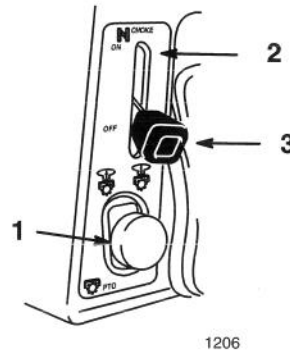

Figure 3
4. Push the PTO (power take off) to "OFF" (Fig. 3).
5. Move the choke lever to "ON" (Fig. 3).